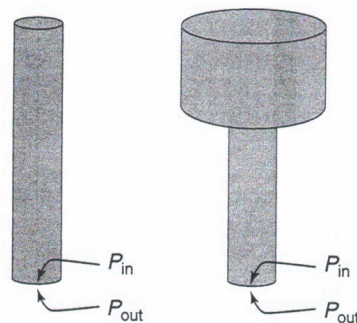

Figure 4.72
22. Consider two vessels of different shapes but that have the same height (Figure 4.72). What is the pressure at the bottom of the fluid in each case? What is the pressure at the bottom of the vessel (outside) in each case? Are they the same or different? Explain.